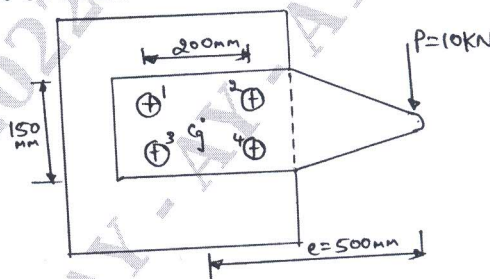

Fig.Q.9(b)
- b. The structural connection is as shown in Fig.Q.9(b) is subjected to an eccentric load P of 10kN with an eccentricity of 500mm. The centre distance between bolts at 1 and 3 is 150mm and the centre distance between bolt at 1 and 2 is 200mm. All bolts are identical. The bolts are made of plain carbon steel having yield strength in tension of 400MPa and factor of safety is 2.5. Determine size of bolts. (14 Marks)